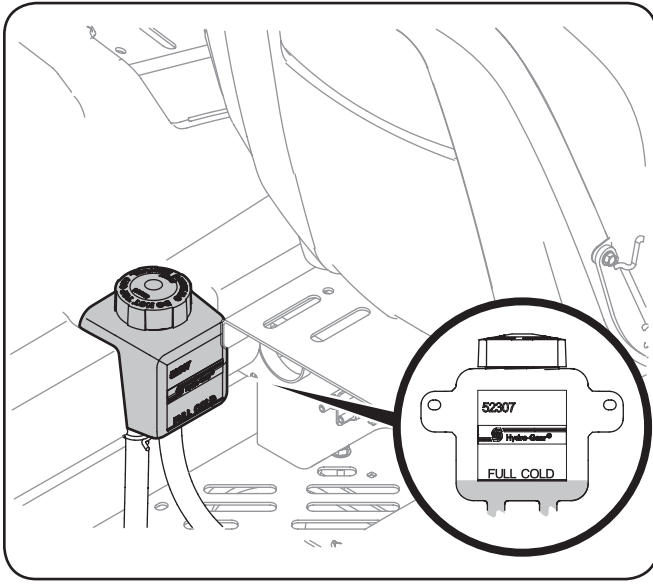

Figure 6-3
1. Pivot the operator's seat forward and clean the reservoir cap and the area around the cap to prevent debris from contaminating the transmission oil. See Figure 6-3.
2. Turn the reservoir cap counterclockwise to re-move, then check the oil level in the reservoir. Oil should be visible at the bottom of the cup, but the oil level must NOT be above the "FULL COLD" line. See Figure 6-3. DO NOT FILL THE RESERVOIR.